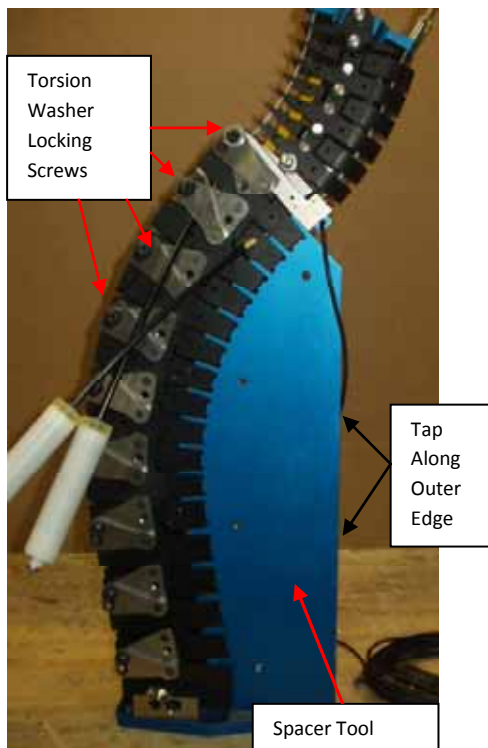
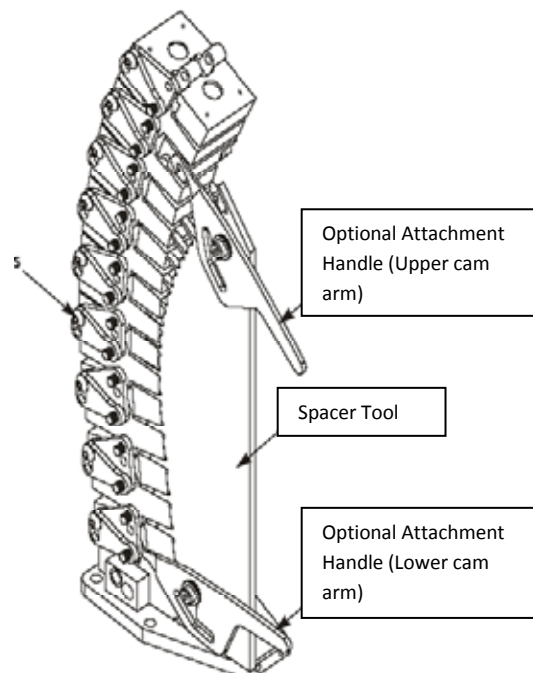

Figure 65 - Thoracic and Lumbar Vertebra Spacer Tool
Figure 66 - Spacer Tool with Optional Handles
2. Insert thoracic and lumbar vertebra spacer tool into front of lower spine as shown in Figure 65. Be sure inside edge of tool is within 1 mm of fronts of all thoracic and lumbar vertebrae, using brass or hard rubber hammer to tap up and down along outer edge of tool, for best placement. Use optional attachment handles (Figure 66) if necessary to aid in installation.